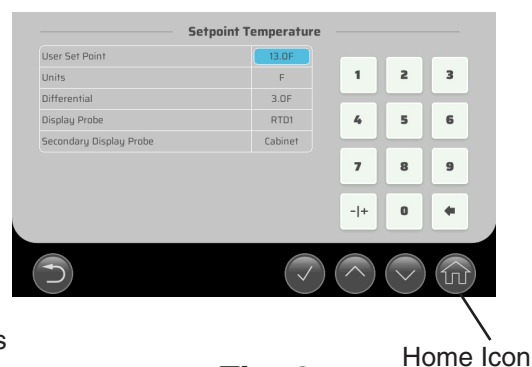

Fig. 6
- Press the home icon to return to the touchscreen setup view. See Fig. 6.